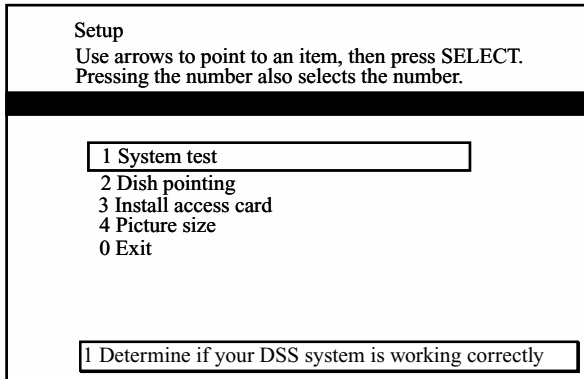
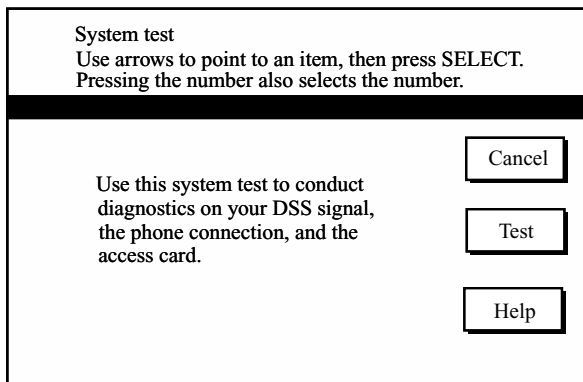

FIGURE 6-14 The setup menu for the system test.
FIGURE 6-15 The system test menu. (Courtesy of Thomson
- Now select “System Test” from the “Setup” menu. Your TV screen will appear as in Fig. 6-14. Next, select “Test” from the System Test menu (Fig. 6-15).